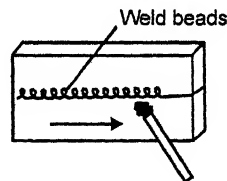

Fig. 13.21. Horizontal position.
**2. Horizontal position.** Refer to Fig. 13.21.